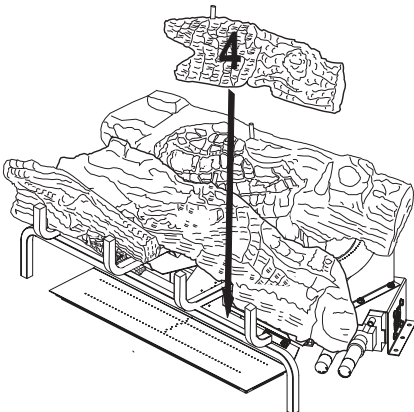

Figure 40 - Installing Log # 4
4. Place the front right log (#4) onto the base assembly between the middle log (#2) and the grate. The back of the front right log (#4) will rest against the front of the middle log (#2). The notch in the end of the front right log (#4) will fit around the grate bar. See Figure 40, page 22.